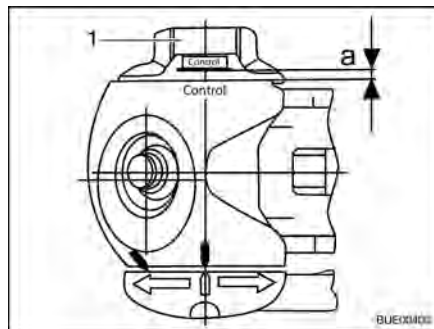

Fig. 193 Friction control
- Turn the handwheel (Fig. 193,1), until it can be heard and felt that the torque limiting mechanism grates. Direction of rotation: In a clockwise direction.
- Distance $a > 0$ (Fig. 193): Wear within the permissible range.